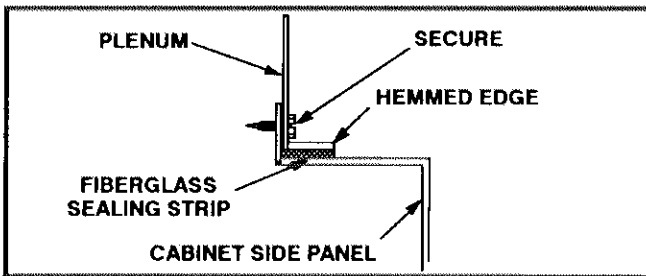

FIGURE 6
- 1– Bottom edge of plenum should be flanged with a hemmed edge. See figure 6.
- 3– In all cases, the plenum should be secured to the top flanges of the furnace using sheet metal screws. See figure 6.